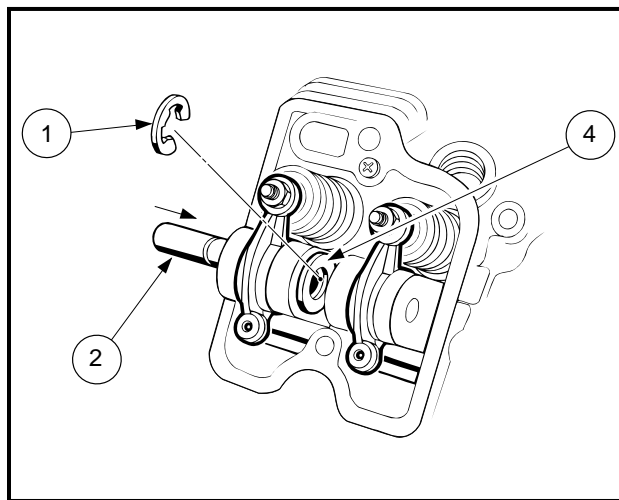

Figure 13-36 Cylinder Head Installation
2. Making sure that each push rod (5) is in place between the rocker arm (3) and the tappet (6) as shown, put the rocker shaft (2) into the posts through the rocker arm (3) and washer (4) (**Figures 13-36 and 13-37**).
3. Slide the washer (4) against the exhaust rocker, and fit the E-ring (1) into the groove in the rocker shaft (2) (**Figure 13-36, Page 13-19**).